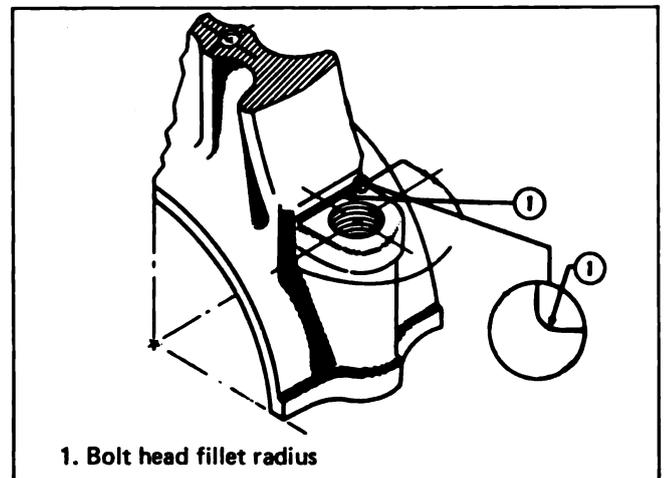

Fig. 1-61 (N40114A). The Fillet Radius On The Bolt Pad.
4. Check the radius on the bolt pad. The bolt pad must have a fillet radius of 0.045 to 0.055 inch [1.14 to 1.40 mm]. See Fig. 1-61. A maximum of 0.0625 inch [1.587 mm] material can be cut from the pad to repair the radius. Remove any sharp edges from the pad.